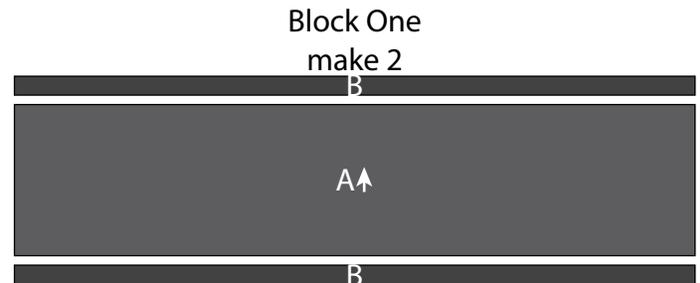

Fig. 1
1. Sew  $1\frac{1}{2}$ " x  $36\frac{1}{2}$ " Fabric B strip to the top and to the bottom of (1)  $8\frac{1}{2}$ " x  $36\frac{1}{2}$ " Fabric A strip lengthwise to make (1)  $10\frac{1}{2}$ " x  $36\frac{1}{2}$ " Block One strip (Fig. 1). Repeat to make a second Block One strip.